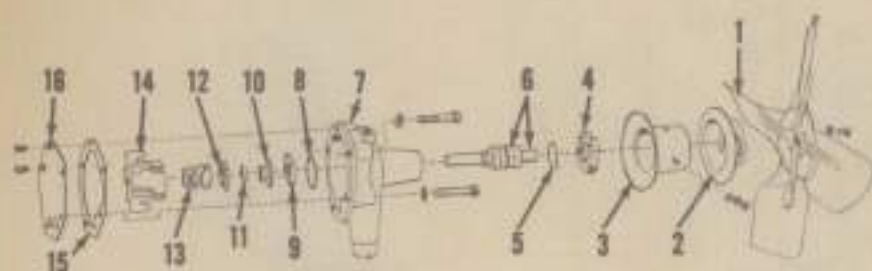

Fig. 86—Exploded view of D-14 and D-15 non-diesel water pump and fan assembly.
137. OVERHAUL. To overhaul the removed water pump, first remove the cover (16—Fig. 86); then, using a suitable puller, remove impeller from rear end of shaft. Carbon thrust washer (8) and seal assembly can be removed from impeller after removing snap ring (8). Shaft and bearing assembly (6) can be pressed out front of body after removing snap ring (5) from behind fan hub (4). Hub can be pressed from shaft.